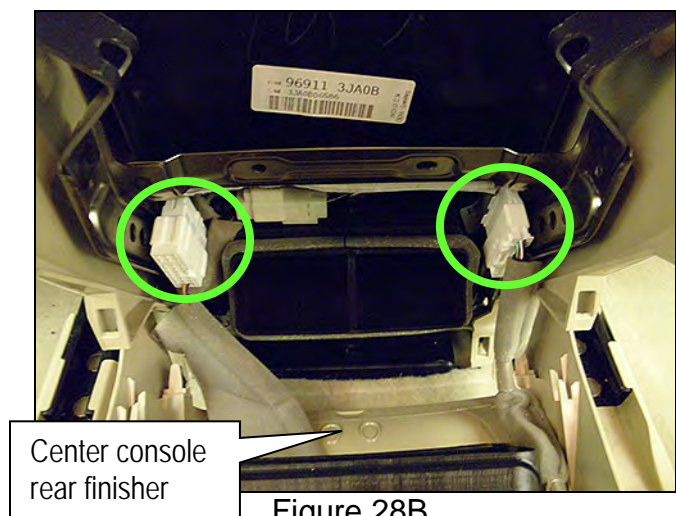

Figure 28B
- Disconnect the two attached harness connectors (Figure 28B).